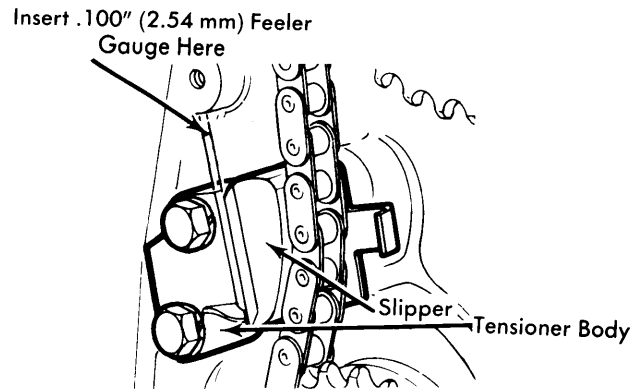

Fig. 4 Adjusting Timing Chain Tension
3) Set chain tension as follows: Insert a .100" (2.54 mm) feeler gauge between chain slipper and tensioner body (see Fig. 4). Loosen three chain guide retainer bolts and press down on timing chain guide between camshaft and jackshaft sprockets until feeler gauge is a sliding fit. Hold guide in this position and tighten adjustable guide bolt first, then two remaining bolts. Remove feeler gauge and continue reassembly.